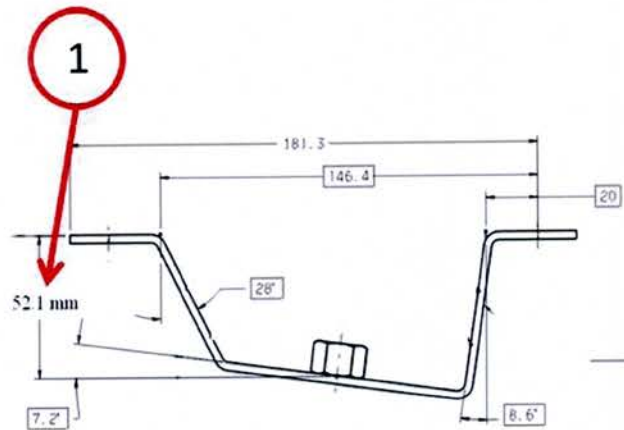

Fig. 1 Drive Shaft Center Support Bearing Bracket
2. Measure the height of the drive shaft center support bearing bracket from the attaching fastener to the frame rail (Fig. 1). The distance should be 52.1 mm (2 inches). Incorrect drive shaft center support bearing brackets will be 82 mm (3.25 inches).